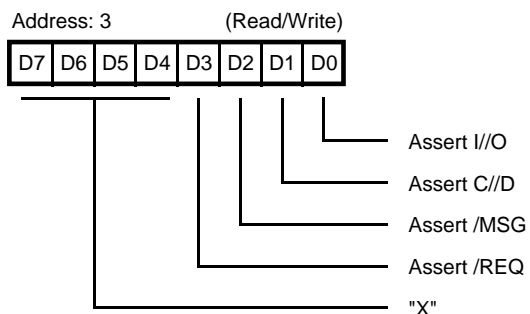

Figure 9. Target Command Register
**Target Command Register.** *Address 3 (Read/Write).* When connected as a target device, the Target Command Register (Figure 9) allows the CPU to control the SCSI Bus Information Transfer phase and/or to assert /REQ by writing this register. The Target Mode bit (Mode Register, bit 6) must be True (1) for bus assertion to occur. The SCSI Bus phases are described in Table 2.